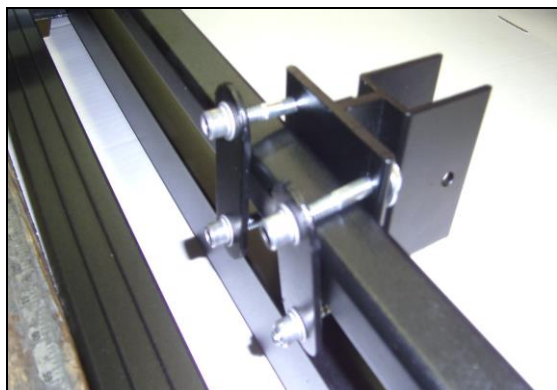

FIG. 2
STEP 1: SEE FIG. 2
STEP 3: SEE FIG. 2